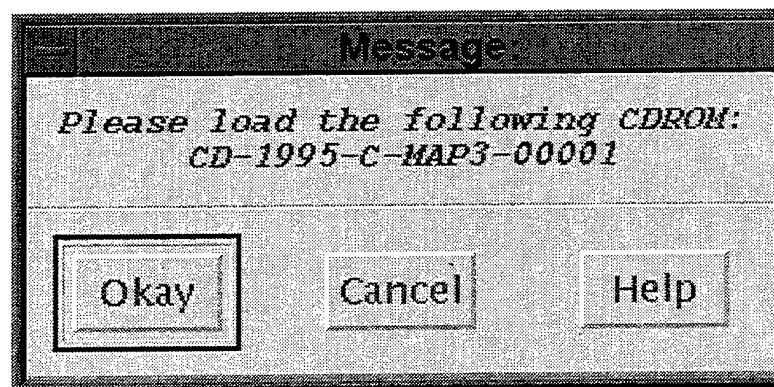

Fig. 80 — MMC prompt to load CAC CD
- (1) Log the desired CAC CD into MMC, if not already done (Sec. 4.2).
- (2) Set *View [data source]* option in *Preferences* to *View CAC CDROM* (Sec. 3.3.5.2).
- (3) Define an area to be viewed using the coverage definition buttons (Sec. 3.2.3).
- (4) Click inside the coverage area with the right (third) mouse button.
- (5) MMC will prompt the user to load the appropriate CAC CD (Fig. 80); load it into the CD changer caddy (Sec. 4.1).